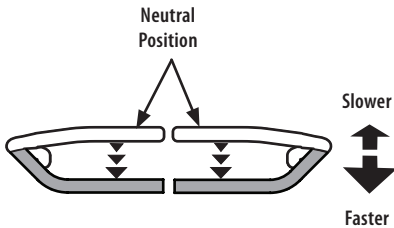

Fig. 24
1. Slowly and evenly move both lapbar drive control levers rearward. The tractor will start to move in the reverse direction (Fig. 24).